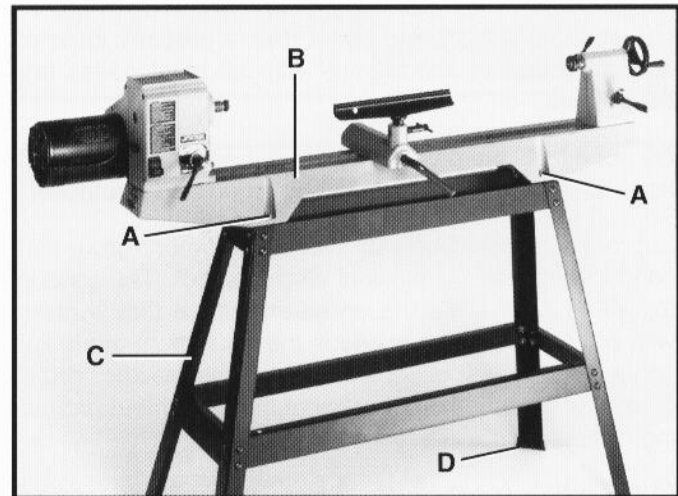

Fig. 20
If you purchased the floor model 46-701 lathe, carefully fasten the lathe (B) Fig. 20, to stand (C) using four 1-1/2 inch-long screws, two of which are shown at (A), eight flat washers, four lockwashers and four hex nuts. Holes are provided in the four rubber feet (D) Fig. 20, to fasten the stand to the floor if the lathe has any tendency to tip over, slide or "walk" during operation.